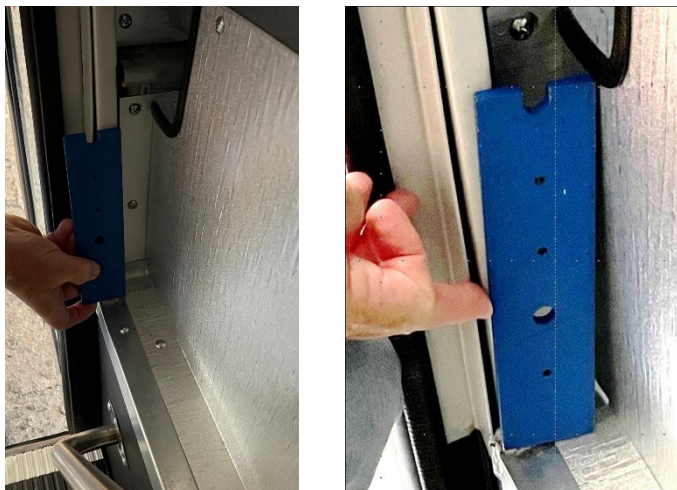

Fig. 8
10. Place and firmly hold the vertical template/fixture over the existing screws as shown in Fig. 8.